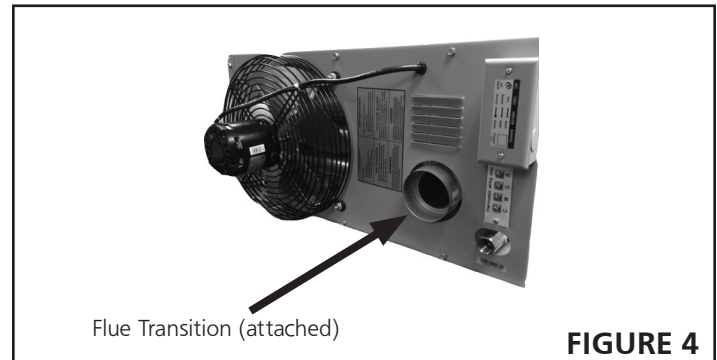

FIGURE 4
- The vent pipe diameter for horizontal commercial installations shall be 4" (76mm). a transition piece has been supplied and is already attached to your heater. Refer to **figure 4**
- The vent pipe diameter for horizontal residential installations shall be 4" on all units. A transition piece has been supplied and is already attached to your heater. Refer to **figure 4**